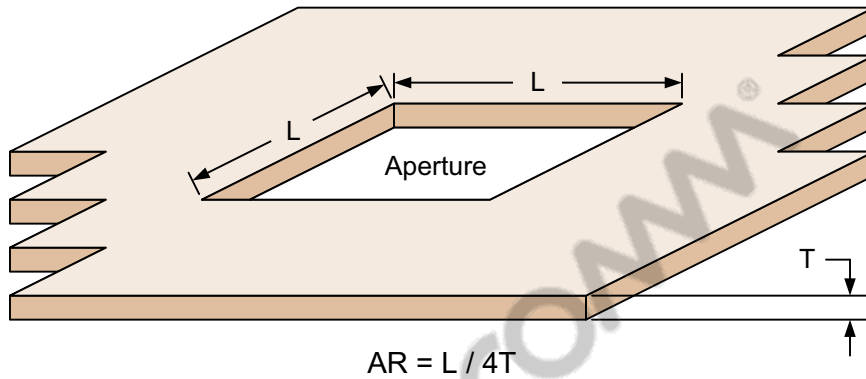

Figure 6-1 Stencil printing aperture AR
One key parameter that should be evaluated is the ratio of aperture area to sidewall area, known as the area ratio (AR). QTI recommends square apertures for optimal solder-paste release. In this case, a simple equation can be used relating the side length of the aperture to the stencil thickness (as shown and explained in Figure 6-1). Larger area ratios enable better transfer of solder paste to the PCB, minimize defects, and ensure a more stable printing process. Interaperture spacing should be at least as thick as the stencil; otherwise, paste deposits may bridge.